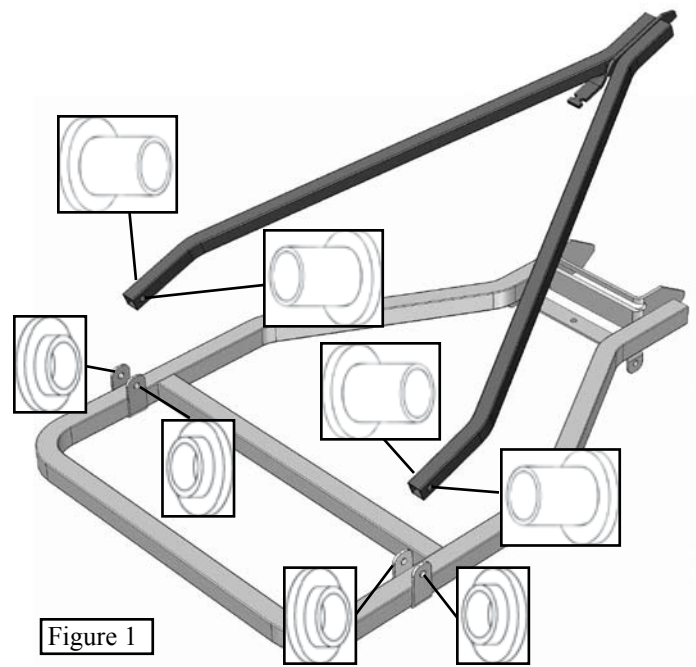

Figure 1
Step 1. Place two short shank bushings on the **outside** of each U-Bracket welded to the bottom of the platform (See **Figure 1**).
Step 2. Place two long shank bushings into the pre-punched holes in the end of the V-shaped Platform Leveler Bar (See **Figure 1**). Repeat for other side.